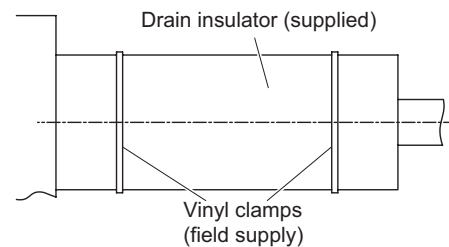

Fig. 2-134
- (2) After checking the drainage, wrap the supplied packing and drain pipe insulator around the pipe, then secure it with the clamps. (Fig. 2-134)